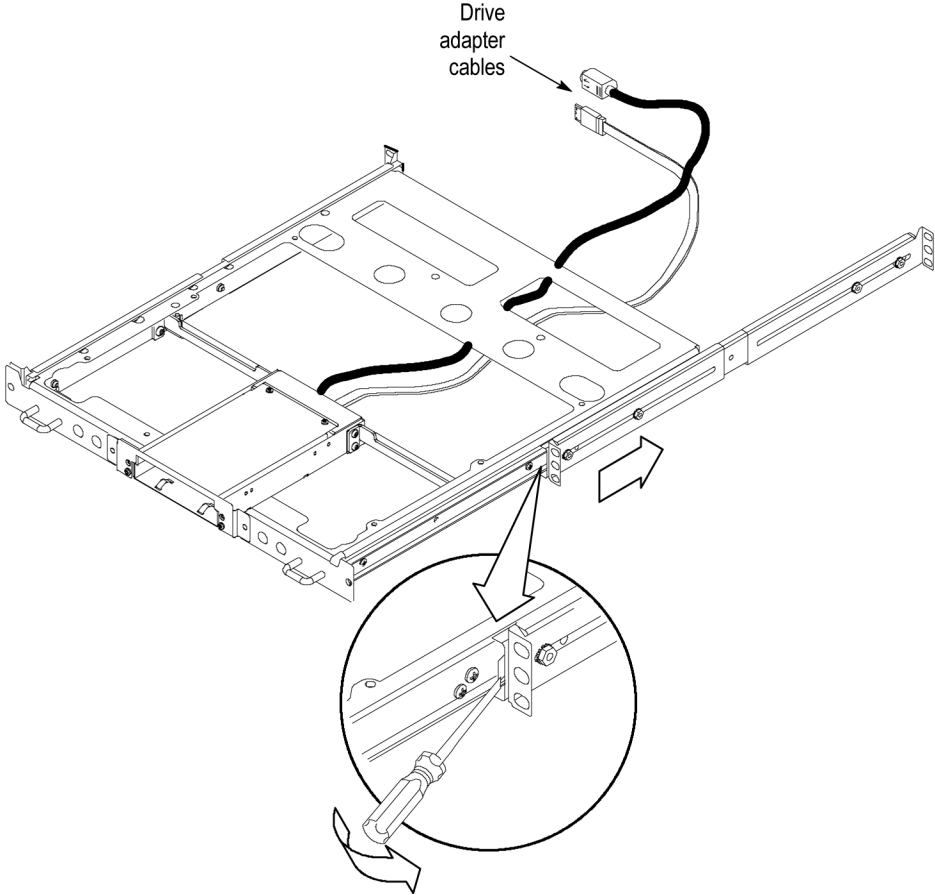

Figure 6: Removing the rack slides (configurations 1 and 2 shown)
3. Install the drive adapter cables to the drive adapter. Dress the drive adapter cables as shown. (See Figure 6.)
4. Remove the rack slides. (See Figure 6.)